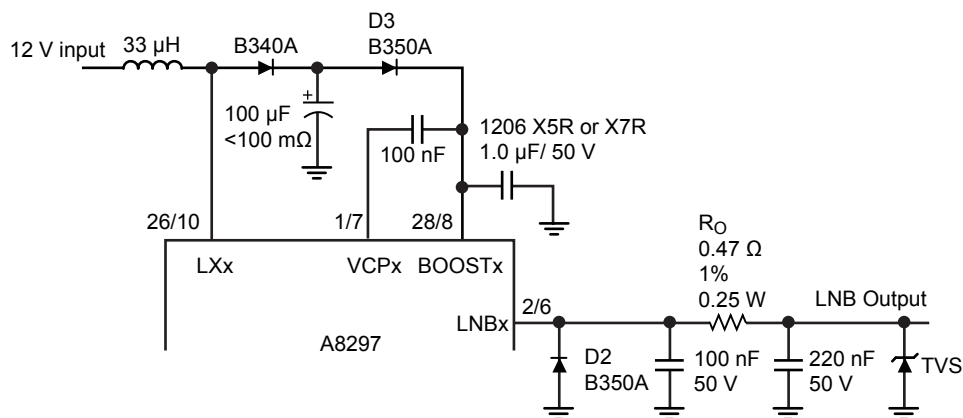

Figure 7. Application of surge protection upgrades
in figure 7. In this position D3 will block surge current to the 100 μ F electrolytic capacitor, but the 1 μ F ceramic capacitor will still filter the high frequency switching noise.
- For increased negative surge, the relatively small clamping diode (D2) from LNBx to ground will no longer be sufficient. This diode must be increased from a 1 A/40 V, SOD123 to a 3 A/50 V, SMA device. Also a 0.47 Ω /1%/0.25 W series resistor must be added as shown in figure 7. The 0.47 Ω resistor could be reduced if there is enough equivalent resistance in any series output components such as jumpers, inductors, or PCB traces.